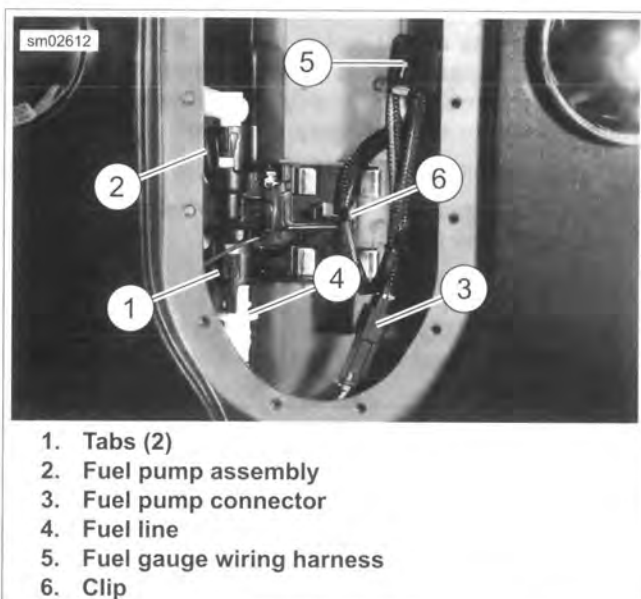

Figure 4-36. Fuel Pump
11. See Figure 4-36. Press tabs (1) and remove fuel line (4) from fuel pump assembly (2).
12. Remove fuel gauge wiring harness (5) from clip (6).
13. Disconnect fuel pump connector (3).